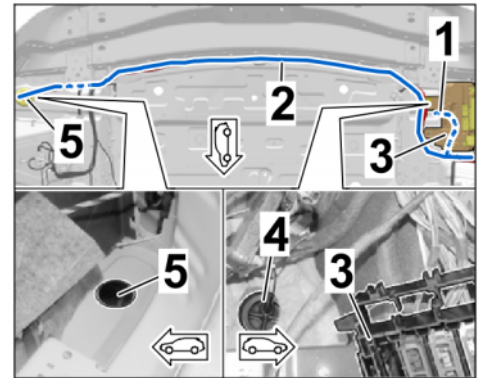

Figure 18
3.2.4 Rear end plate area and grommet/stopper for luggage compartment floor (⇒ *Figure 18*)
- Branch for exhaust flap (left) to grommet/stopper for luggage compartment floor, left (beneath fuse box in luggage compartment (left) → branch for exhaust flap on the right to rear closing panel → along rear closing panel (⇒ *Figure 18-top-*) → grommet/stopper for luggage compartment floor, right.